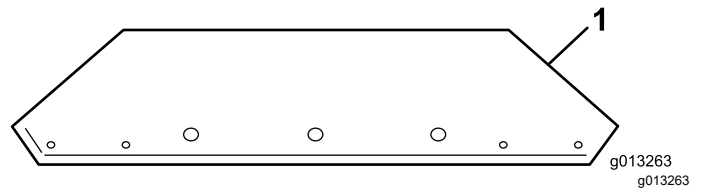
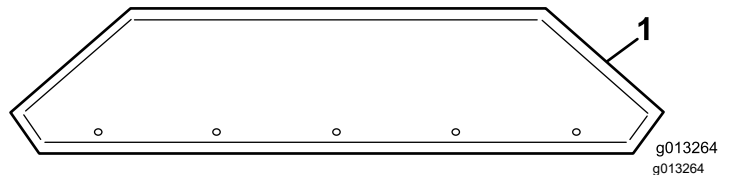

Figure 13
Figure 14
1. Remove the hopper extensions from the box and identify the front and the rear (Figure 13 and Figure 14).